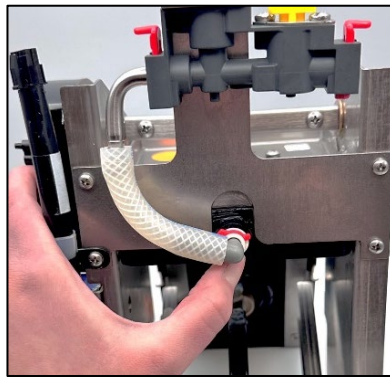

Fig. 2
3. Remove the red inlet tube retainer (Fig 2).